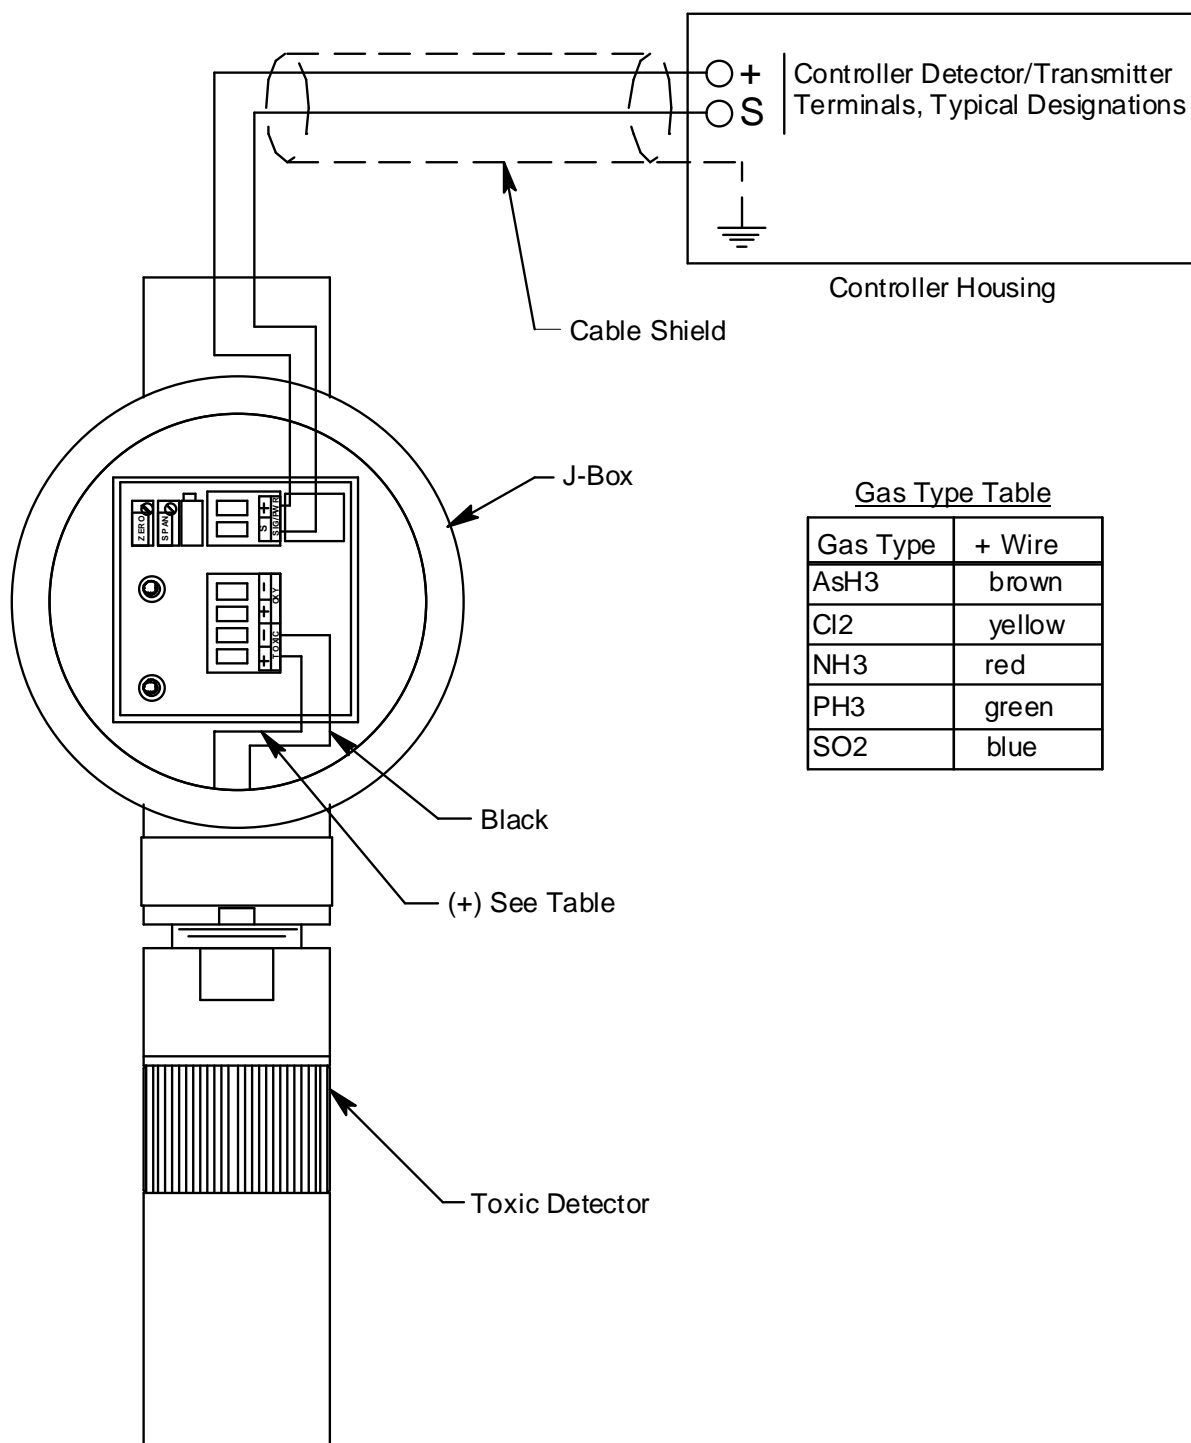

Figure 4: Wiring the Toxic Gas Transmitter to a Controller
The detector housing body protects the electronic components within the housing. Use the mounting threads at the top of the housing to screw the toxic detector into the 3/4" NPT hub on the bottom of the junction box. Two wires extend from the top of the detector housing body. Use these wires to connect the toxic detector to the amplifier. One of the wires is black and one of the wires is color coded depending on the detector type. See Figure 4 on page 10 for the color code assignments.
4. The detector leads are factory wired. Verify that the detector leads are wired to the amplifier's detector terminal strip as shown in Figure 4.
7. Pull out the controller terminal strip, and connect the two wires to the terminal strip as follows (see Figure 4).
11. Connect the wires to the applicable detector/transmitter terminal strip at the controller as shown in Figure 4
8. Connect the detector leads to the appropriate detector terminal strip terminals. Connect the black wire to the terminal labelled TOXIC - and the color coded wire to the terminal labelled TOXIC +. See Figure 4 on page 10 for the detector wiring connections to the amplifier and the detector wire color coding.